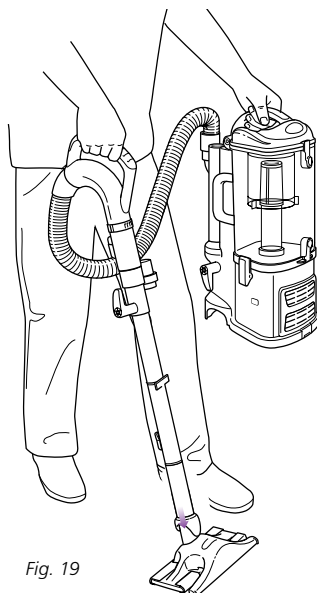

Fig. 19
- 2 Attach Dust-Away™ hard floor attachment onto the end of the extension wand. (Fig. 19)